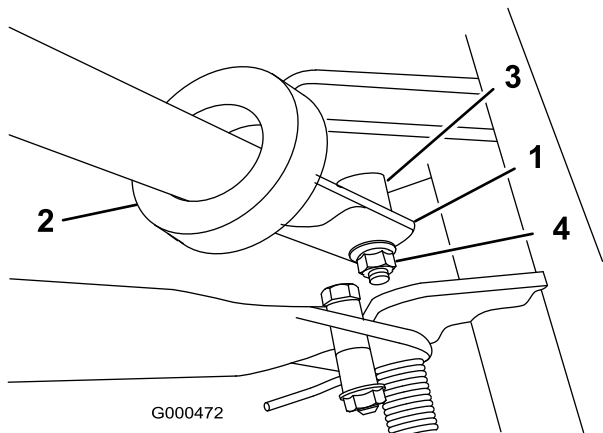

Figure 9
2. Insert the handle ends through the slots in the handle support arms (Figure 9).
3. Squeeze the handle ends inward and install them on the step of the pivot pin (Figure 9).